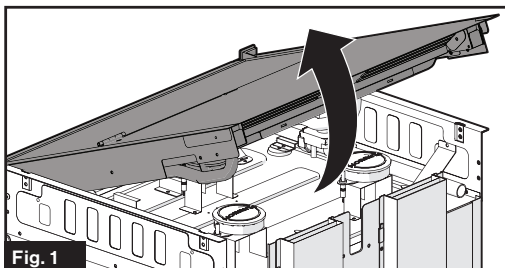

Fig. 1
2. Hold the baffle and pull upward to release the top glass cover assembly from the oven. (Fig. 1)